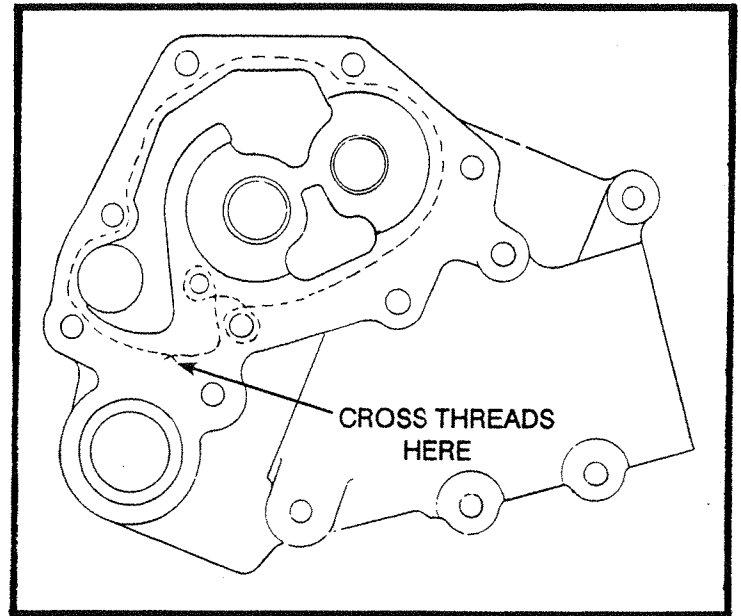

FIGURE 72-60-04. OIL PUMP COVER THREADING PROCEDURE
4. Apply silk thread, part no. 641543, position as shown by dotted lines in Figure 72-60-04 above.